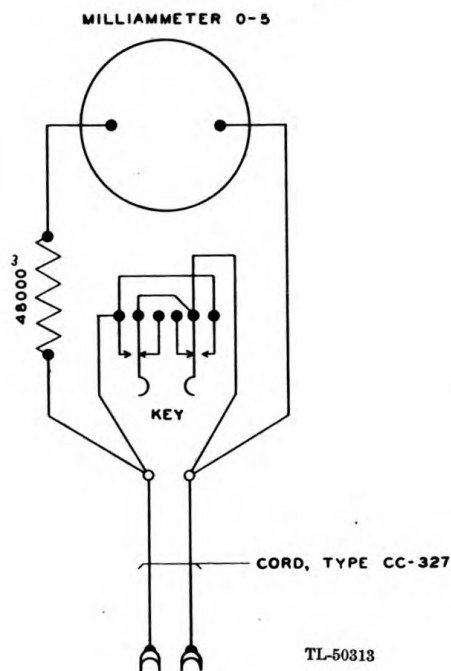

FIGURE 5. Outpost Unit BE-51, wiring diagram.
5. OUTPOST UNITS BE-51.—Each Outpost Unit BE-51 (fig. 5) consists of a milliammeter (0 to 5 scale) in series with a 48,000-ohm resistance and a non-locking plunger type key to short circuit the milliammeter and resistance. The equipment is mounted on a phenolic base and enclosed in a leather case with a shoulder strap. Cord CC-327 is used to connect the unit to the center terminals of Capacitor Unit BE-59.